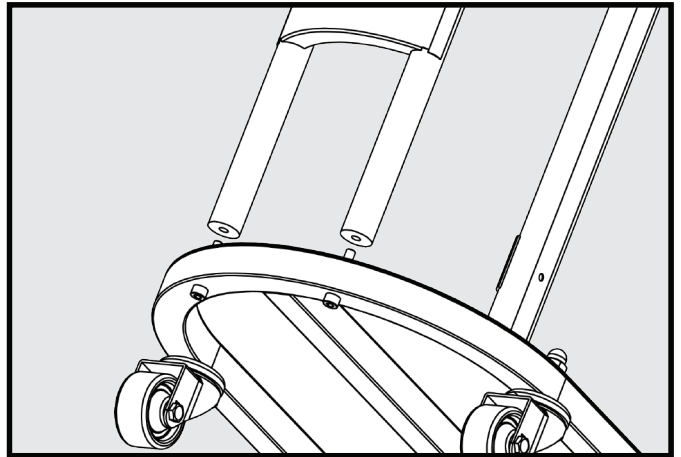

FIGURE 4
3. Insert M8 x 45mm hex socket head screw (18) through hole in base frame and thread into front support (Fig 4).